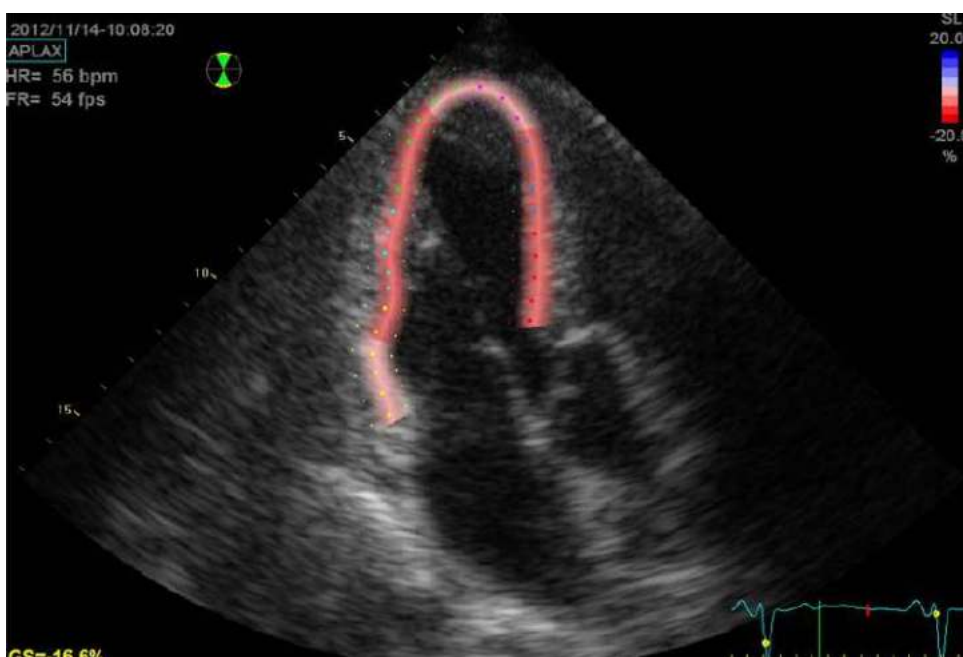

Figure 13-108. Parametric systolic strain APLAX view
The user is asked to confirm or adjust the AVC timing setting (see Figure 13-108 on *page 13-234*).
- Single screen (see Figure 13-108 on *page 13-234*) displaying a 2D image with strain parametric data.
If Auto-AVC is used as AVC timing calculation method when running Cardiac Strain (see Figure 13-108 on *page 13-234*), the strain values displayed in the Quad screen for the APLAX and 4 Chamber views may differ from the strain values obtained after the system has performed the final calculation from all three views.
- AVC measurement (either automatic or manual, see Figure 13-108 on page 13-234)